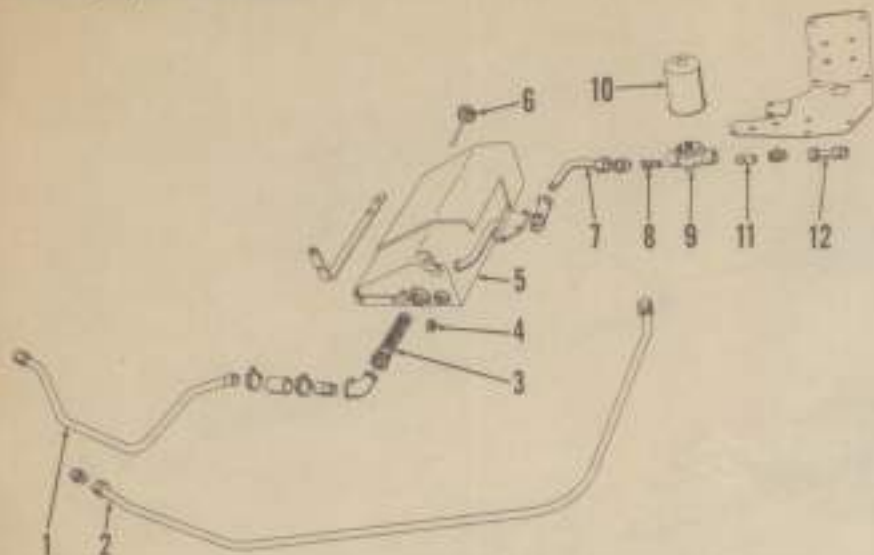

Fig. 179—Exploded view of reservoir, filter and oil lines used with high volume pump on D-15 tractors.
**268. REMOVE AND REINSTALL.** Before removing the pump, thoroughly clean exterior of pump, hydraulic lines and connections. Drain the hydraulic reservoir (Fig. 179) and disconnect hydraulic lines (1 & 2)